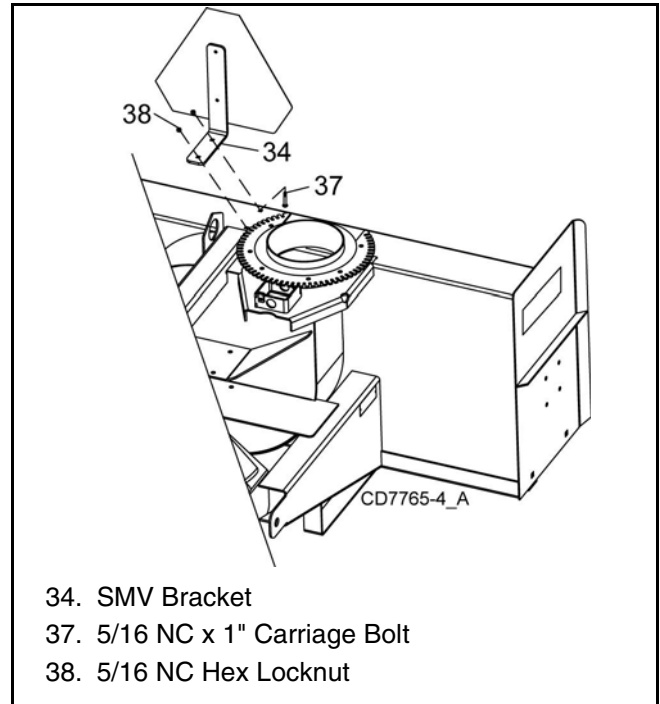

Figure 17. SMV Installation
6. Remove hardware (37) and (38) from SMV bracket (34) and rotate bracket facing up. Reinstall hardware (37) and (38), Figure 17.